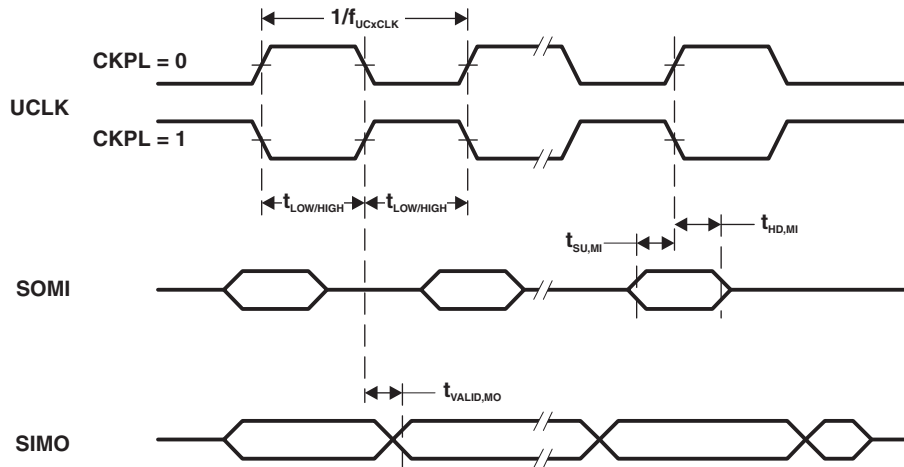
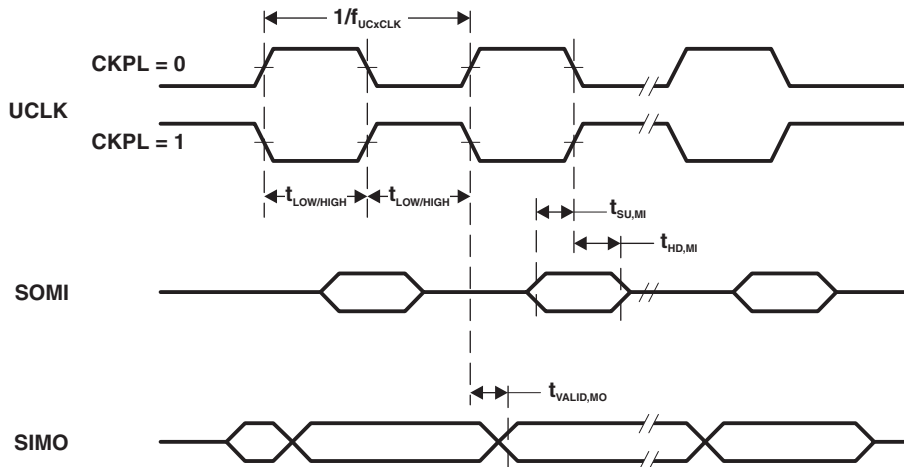

Figure 5-23. SPI Master Mode, CKPH = 0
Figure 5-24. SPI Master Mode, CKPH = 1
over recommended ranges of supply voltage and operating free-air temperature (unless otherwise noted)⁽¹⁾ (see Figure 5-23 and Figure 5-24)
- (1) $f_{UCxCLK} = 1/2t_{LO/HI}$ with $t_{LO/HI} \geq \max(t_{VALID,MO}(USCI) + t_{SU,SI}(Slave), t_{SU,MI}(USCI) + t_{VALID,SO}(Slave))$. For the slave parameters $t_{SU,SI}(Slave)$ and $t_{VALID,SO}(Slave)$, see the SPI parameters of the attached slave.
- (2) Specifies the time to drive the next valid data to the SIMO output after the output changing UCLK clock edge. See the timing diagrams in Figure 5-23 and Figure 5-24.
- (3) Specifies how long data on the SIMO output is valid after the output changing UCLK clock edge. Negative values indicate that the data on the SIMO output can become invalid before the output changing clock edge observed on UCLK. See the timing diagrams in Figure 5-23 and Figure 5-24.